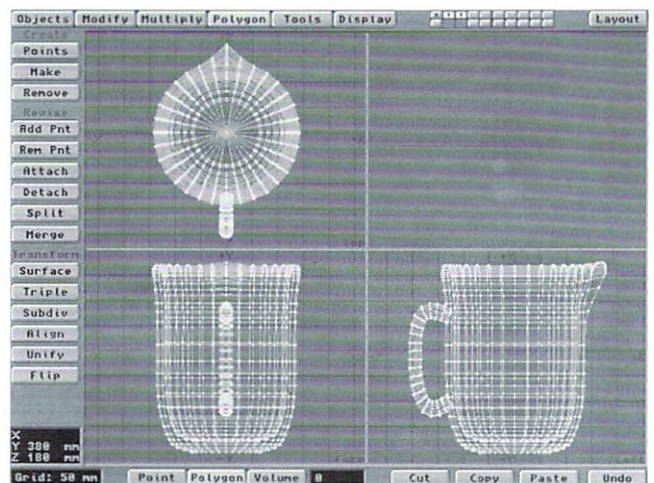

Figure 2: The completed water container object.
- Use the **Surface** button (**Polygon** panel or q) to name the polygons of your water container and the handle. I used the names "WaterContainer" and "WaterContainerHandle". Hold down the shift key and select the two layers that contain these objects. **Save** or **Export** (**Objects** panel) these two layers as "Contnr1.lwo", the object that water will be poured out of. **Save** or **Export** another copy of these two layers as "Contnr2.lwo" so that we will have an object for the water to pour into. Our completed water containers should look like the object shown in Figure 2.